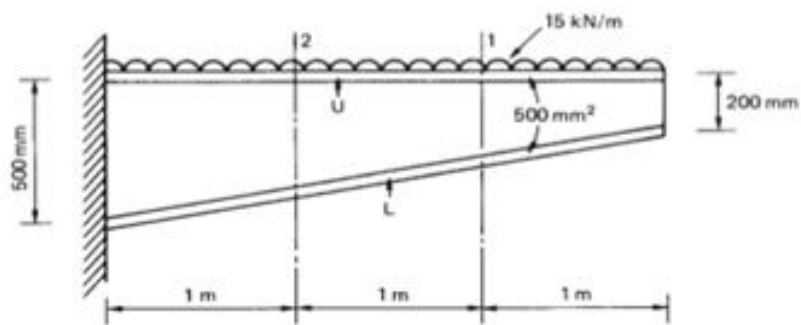

Figure 5
- (b) If the web in the wing spar of Figure 5 has a thickness of 2mm and is fully effective in resisting direct stresses, calculate the maximum value of shear flow in the web at a section 1m from the free end of the beam. [BL: Understand | CO: 8 | Marks: 3]